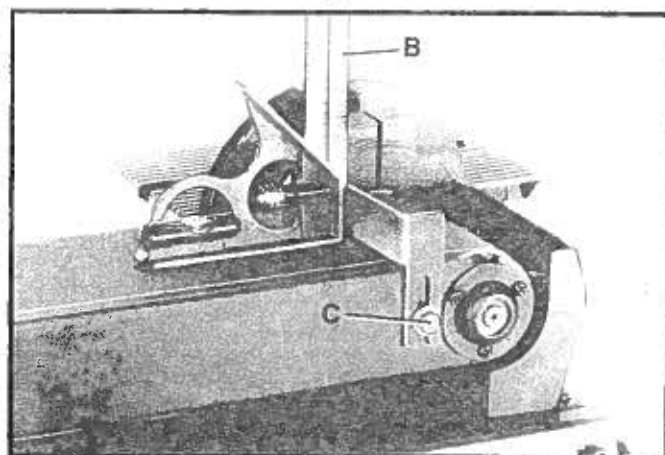

Fig. 29
3. Place a square (B) Fig. 29, on the sanding belt with one end of the square against the backstop, and check to see if the backstop is square with the sanding belt.
4. If an adjustment is necessary, loosen screw (C) Fig. 29, and adjust the backstop accordingly.